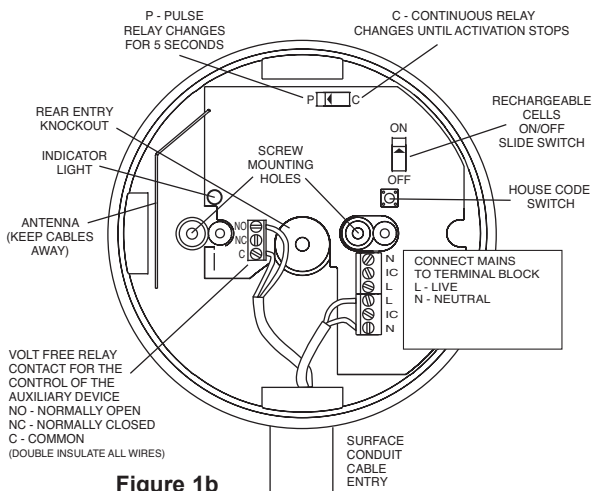

Figure 1b
2. Where the incoming wiring is on the surface of the wall/ceiling, the appropriately sized trunking / conduit must be chosen to mate with the unit. Use a sharp knife to remove the material from the knockout, making sure that there is no gap when mated with trunking/conduit. There is one suitable surface cabling knockout (the other two surface entries are not recommended as the wiring will reduce the antenna signal). There is one rear entry knockout. See figure 1b.
3. Screw the Ei428 module to the wall after first removing the required knockout and bringing the house wires through it (see figure 1b).
4. Connect the power supply wires (Live & Neutral) to the mains terminal block as shown in figure 1b. (Screw tightening torque: max 0.5Nm (5.1kgf.cm))
9. Connect the rechargeable cells by carefully and gently sliding the switch to the “ON” position (see figure 1b). This switch must be in the ‘ON’ position to ensure correct operation.
12. Check the green light is on. If the green light changes to red every 10 seconds then switch off the mains power, remove the cover and check that the battery slide switch is in the “ON” position (see figure 1b). Replace the cover and turn the mains power back on. If there is still a problem the rechargeable cells may be depleted, leave the unit on mains power for 2 hours to charge and test again.
- (ii) The LED flashing red every 10 seconds indicates a battery problem. Check that the slide switch is in the "ON" position (See fig 1b) and leave the battery to recharge for 2 hours before checking again. If the unit continues to flash red every 10 seconds then the unit is defective and must be replaced, see "Getting your Relay Base Serviced" section.
If, within the guarantee period, your RadioLINK Relay Base fails to work after you have carefully read all the instructions and checked that the device has been installed correctly and is receiving AC power, then contact us. If you are advised to return your product, follow the instructions given. Open the cover and turn off the rechargeable cells with slide switch (see fig 1b). Put the device in a padded box with proof of purchase, your contact details and a note stating the nature of the fault.